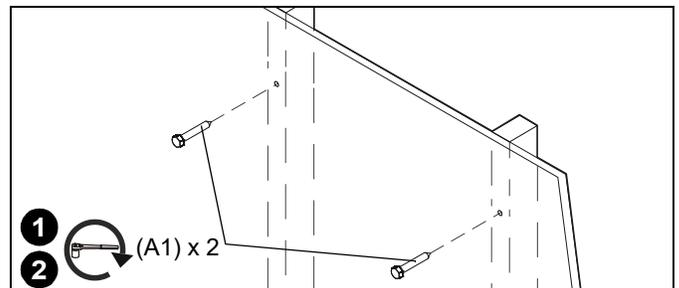

**Figure 65**
6. Insert 1/4-20 x 1-3/4" Phillips pan head screw (B2) through 1/4" washer (B3), corresponding mounting hole in product and into anchor (B1), and tighten until flush against product. DO NOT over tighten! (See Figure 65)